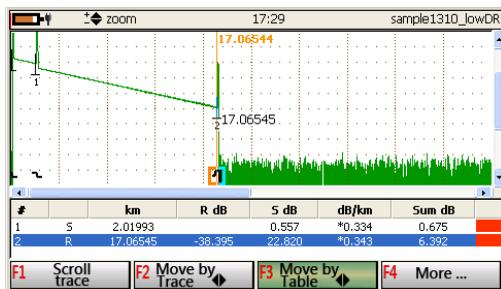

Figure 7.36
- registers these data in the events table (see Section 7.6.16. Event table) and shows them in the form of signs on the trace (see Figure 7.36).
The window is shown in Figure 7.36.